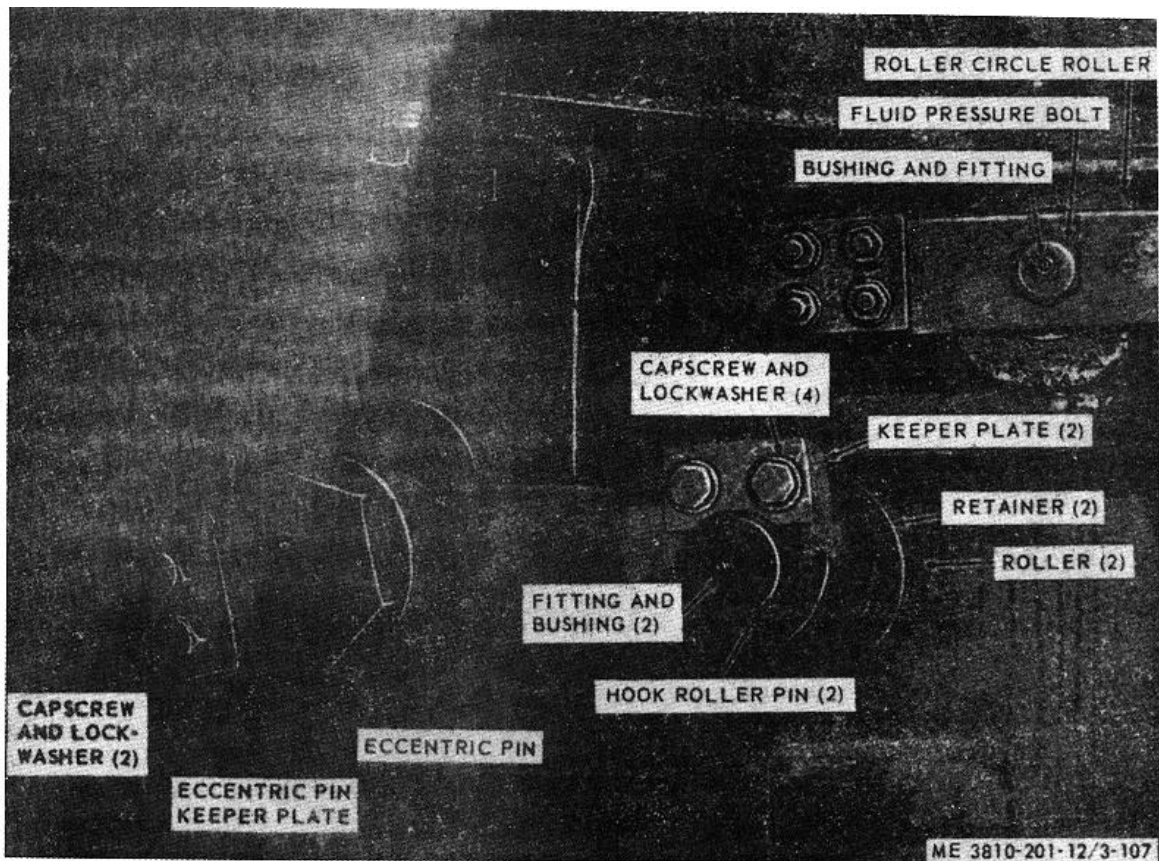

Figure 3-94. Rear hook rollers, removal and installation.
(2) Support the swivel arm (fig. 3-94) with cribbing or a jack, remove two capscrews, lockwashers,
(1) Remove nut and lockwasher from fluid pressure bolt (fig. 3-94), then withdraw bolt from segment roller shaft, and remove roller from roller circle frame.
(2) Remove lubrication fitting and bushing from fluid pressure bolt.
(3) Remove shaft from segment roller.
(4) Install in reverse order.
(5) Remove or install remaining rollers in a similar manner.